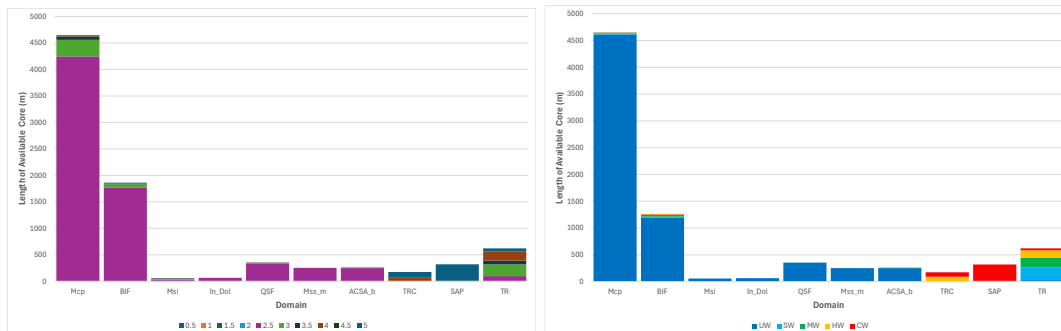

Figure 5: Example Stacked bar Charts
- i) Provide stacked bar charts to show the relationship between weathering, alteration, field estimated strength and domains (see Figure 5).